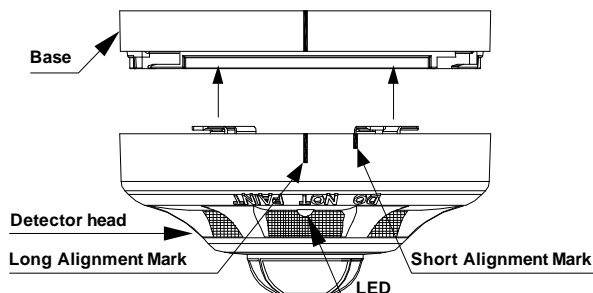

Fig. 2: Fitting the detector to the base
2. Align the detector alignment mark with the short alignment mark in the base, as shown in Fig. 2.